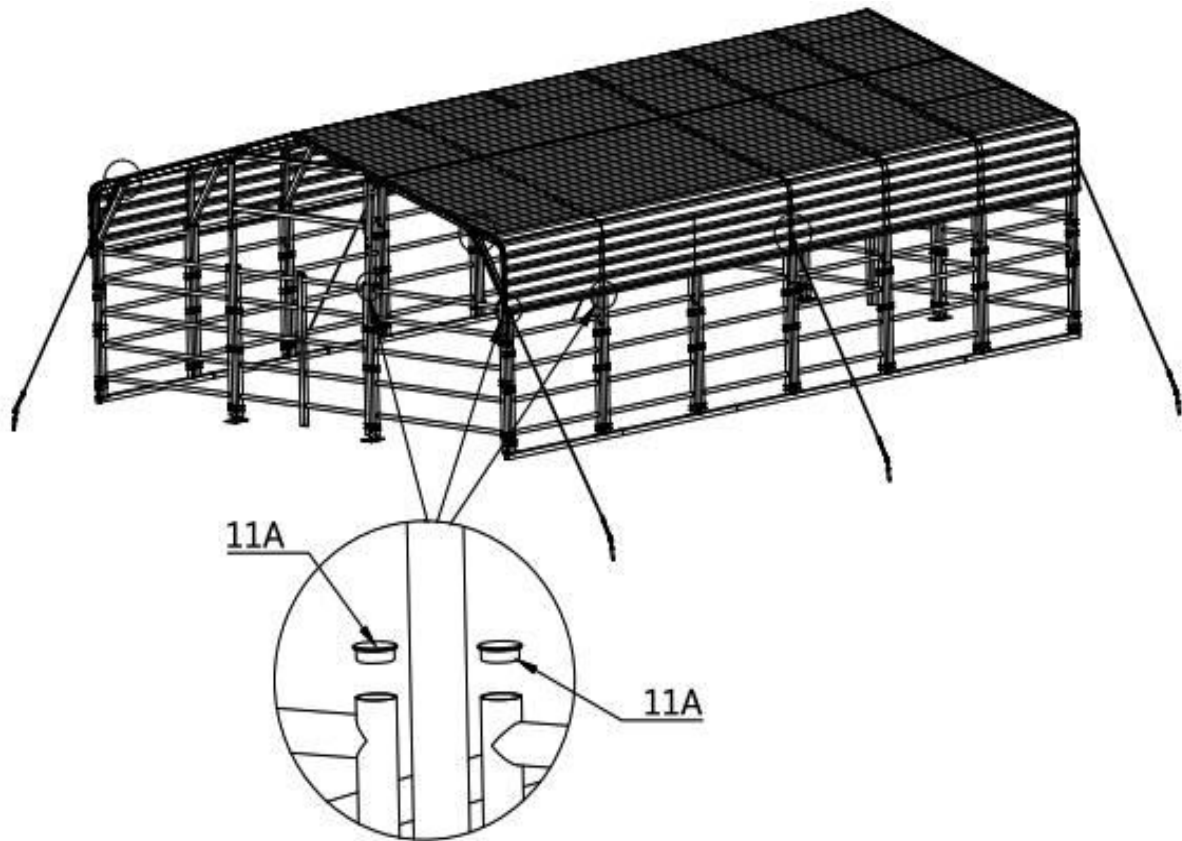

**Figure 20**
- Select a suitable position to fix the expansion bolt of the draw hook one end of the wire rope onto the Steel cable (#23) mounting plate and eyebolt, and fix the other end to (#22) anchor hook of the draw hook, adjust the nut on the steel wire rope to tighten the steel wire rope (refer to figure 20).
- (6) Anchor hook (#22)